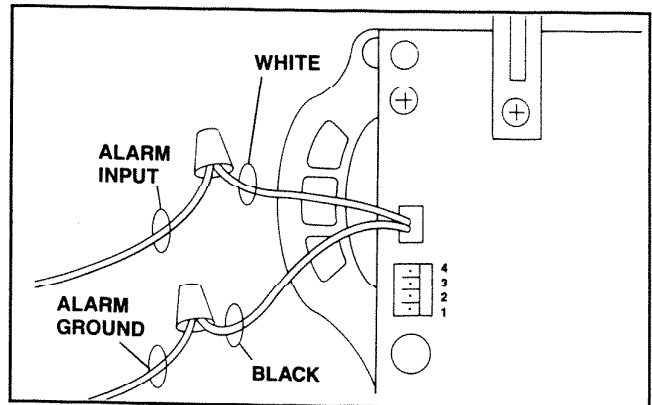

FIGURE 18
3. For optional hook-up to a NuTone Security System, connect NuTone IW-2 cable from Model SA-2335 Alarm Horn to the black and white wires shown in Figure 18.